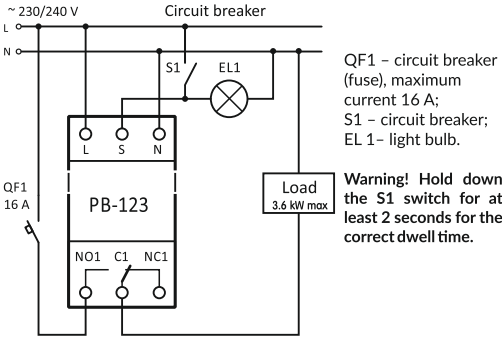

Figure 2
- 2) Connect the device according to the diagram shown in Fig. 2.